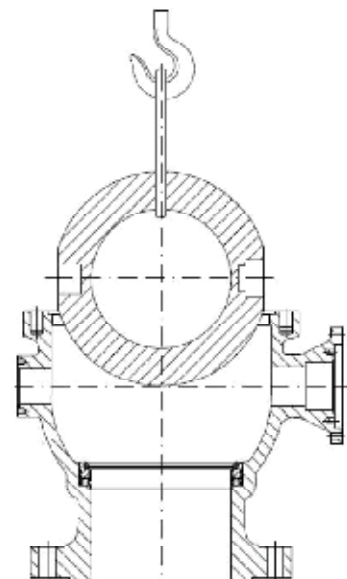

Figure 5
Remove the intermediate flange bolts (10, 11), valve seat (6) sub-assembly, and left upper valve body (8), and the pin from the supporting plate, see **Figure 5**.
Wrap up a rope with a piece of soft cloth and pass it through the ball (7) passageway. In doing so, the ball port or ball surface can be protected from scratches. Then hoist the ball as shown in **Figure 5**
After the valve seats are mounted in place, point the flange face of valve body downward and then place the body vertically on the work surface. Lift up the ball and place it carefully into the body. Hold the ball while it is lifted and being placed in order to prevent scratches and abrasions to the ball due to swinging. For specific steps, see Figure 5.